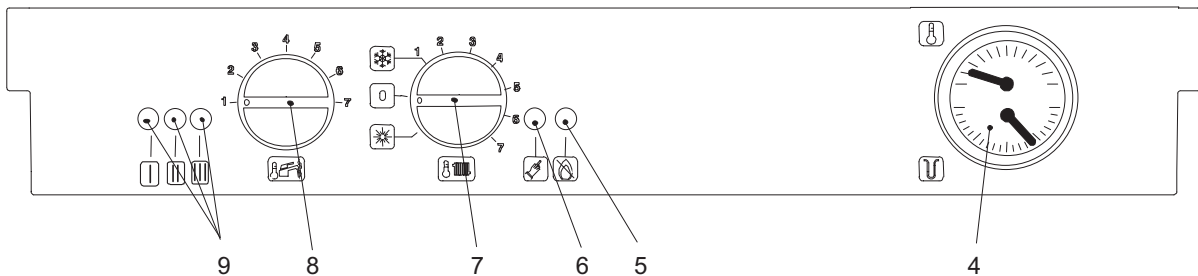
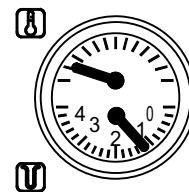

Figure 3.2
Figure 5.1
Three lights (8 in Fig. 3.2) give detailed indication regarding the operation of the boiler. The following table gives the relationship between each of the possible light combinations and their meaning.
- Ensure that the Central Heating circuit is regularly filled with water checking that the pressure indicated on the temperature and pressure gauge (4 on figure 3.2) is not lower than 1 bar (14.5 psi) as shown on figure 5.1.
- The temperature and pressure gauge (Fig. 5.1 on page 11) will allow you to check that the set temperature is obtained.
- You should check that the pressure on the temperature and pressure gauge (Fig. 5.1 on page 11) is not below the correct setting.
#### If the pressure on the temperature and pressure gauge (Figure 5.1 on page 9) has gone down:
- Check on the temperature and pressure gauge (figure 5.1 on page 11) that the pressure in the central heating circuit is not close to 3 bars (43.5 psi). In this case, temperature rise in the circuit can cause the pressure relief valve to open.